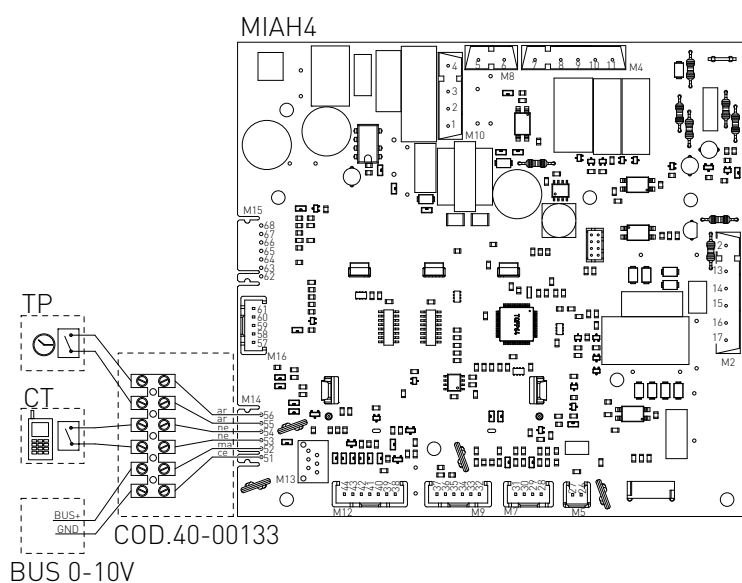

fig. 1
operate on the "SPM" male plug (see fig. 1), located under the boiler template, following the below instructions:
- › disconnect the "SPM" male Plug and make the connections (see fig. 1):
- › after removing the crankcase, connect the items below to the electronic board (see fig. 1):